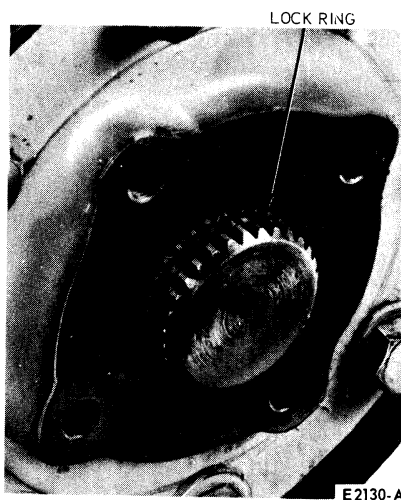

FIG. 4 Access to Lock Ring
2. Remove the retaining lock ring, as shown in Fig. 4.